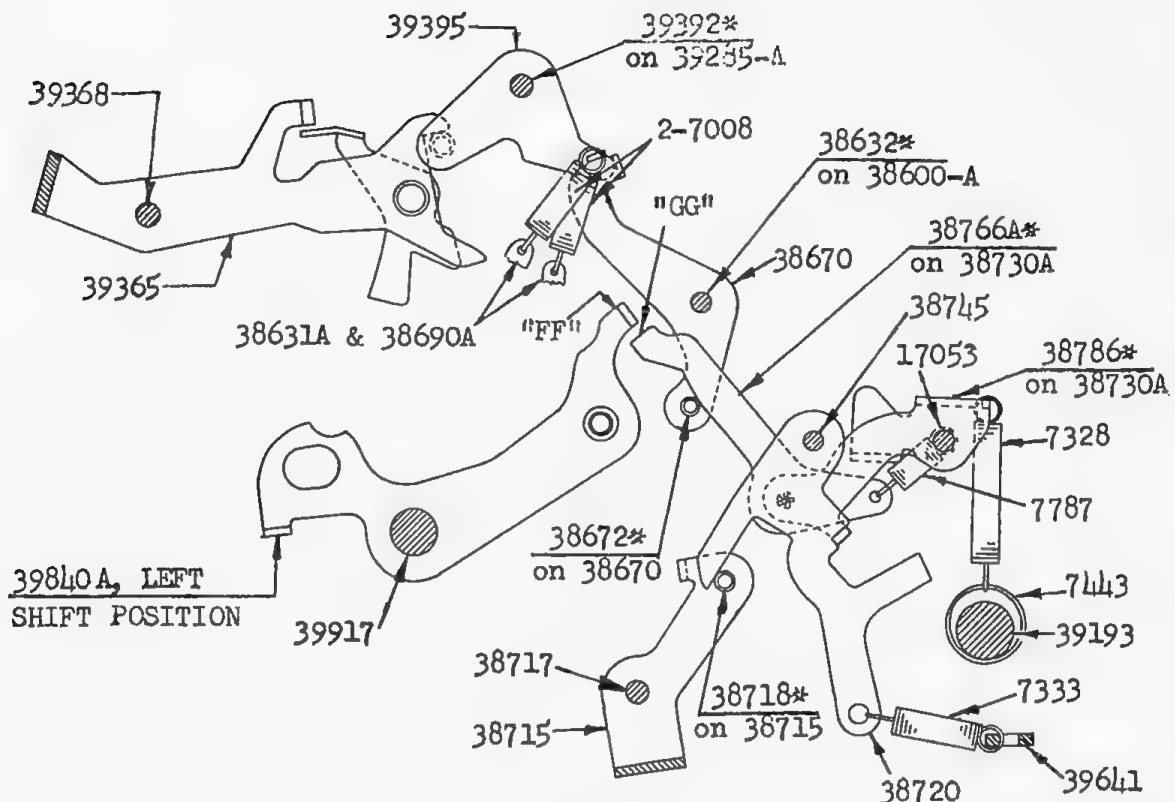

FIG. 52
7. (Fig. 52). When the carriage shifts to the left the Traveller moves to the right until it is cammed up on the next 38215A in "Mid" position. This terminates the shift in the same manner as described in Section V-Para. D-7, Page 1267
(Fig. 52 on Page 1277), to rock